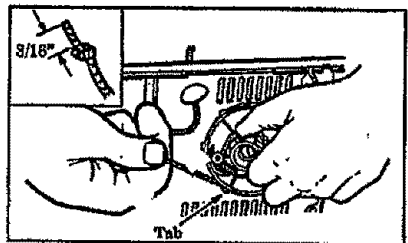

Figure 40
10. Insert one end of the Rope through the Handle and secure with a knot. Leave a 3/16" pigtail behind the knot. Figure 40 (inset—upper left).
17. Pull out 10 inches of rope. Catch the rope on one of the tabs on the pulley. Figure 40.